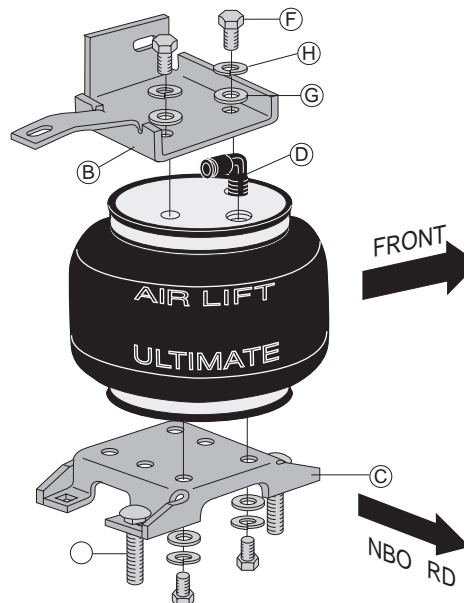

fig. 2
3. Insert two carriage bolts in the lower, inboard holes of the lower bracket before attaching the bellows (Figure 2).